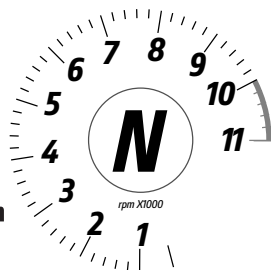

Fig 80
Once the DPL level is set, the instrument panel shows the wait screen for 2 seconds (Fig 79): during this time, if you press the ENTER button (3), the wait phase is interrupted and the instrument panel displays the main screen and sets the DPL to OFF. Then the instrument panel shows the "assisted launch" screen (Fig 80).